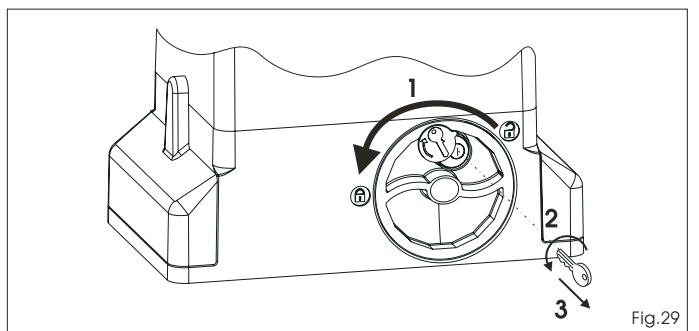

Fig.29
- 1) Turn the release system anti-clockwise, until its stop is reached, Fig. 29 ref. 1.
- 2) Turn the key anti-clockwise and remove it from the lock, Fig. 29 ref. 2 and 3.